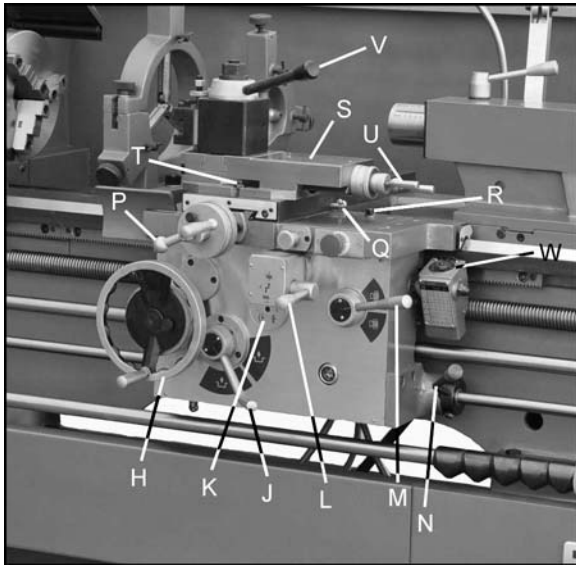

Figure 16 – Carriage controls and settings
5. **Carriage Handwheel (H, Figure 16):** Located on apron assembly. Rotate handwheel clockwise to move carriage toward tailstock (right). Rotate handwheel counterclockwise to move carriage toward headstock (left).
6. **Feed Engagement Lever (J, Figure 16):** Located on front of apron assembly. Pull lever up to engage. Push lever down to disengage.
7. **Adjustable Feed Clutch (K, Figure 16):** When the machine is overloaded, it can slip. Then cutting rate must be reduced. **Note:** This setting has been calibrated at the factory and should not need adjustment. If adjustment ever becomes necessary, follow the diagram on the front of the apron.
8. **Longitudinal/Cross Feed Selector Lever (L, Figure 16):** Can be pushed to upper, middle and lower three positions. Push the lever up, cross feed is effected. Push the lever down, longitudinal feed is effected. When the lever is in the middle position, screws can be cut by engaging the half nut.
9. **Half Nut Lever (M, Figure 16):** Located on front of apron assembly. Used for threading.
10. **Spindle Direction Control Lever (N, Figure 16):** Move lever to the right so that its tab clears the notch, then *downward* for forward spindle rotation, or *upward* for reverse spindle rotation. **Allow spindle to come to a stop before changing directions.** Position lever in neutral position (tab in notch) before shutting off the lathe.
11. **Cross Slide Handwheel (P, Figure 16):** Located above the apron assembly. Clockwise rotation moves cross slide toward rear of machine.
12. **Cross Slide Lock (Q, Figure 16):** Lever located on left side of cross slide. Turn clockwise to lock and counterclockwise to unlock.
13. **Carriage Lock (R, Figure 16):** Located on top right of carriage. Turn clockwise to lock, counterclockwise to unlock.
14. **Compound Rest (S, Figure 16)** is located on top of cross slide and can be rotated 360°. There are calibrations in degrees (T, Figure 16) below the rest to assist in placement of the compound rest to the desired angle.
15. **Compound Rest Handle (U, Figure 16):** Located on end of compound slide. Rotate clockwise or counterclockwise to position.
17. **Tool Post Clamping Lever (V, Figure 16):** Located on top of tool post. Rotate counterclockwise to loosen and clockwise to tighten.
18. **Thread Chaser (W, Figure 16):** Indicates the point on the leadscrew where the half nut can be re-engaged to continue inch threading.